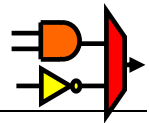

Figure 4 - Specifying the state assignment method in Quartus II.
3. Before compiling your code it is possible to tell the Synthesis tool in Quartus II what **style of state assignment it should use**. Choose Assignments > Settings in Quartus II, and then click on the Analysis and Synthesis item on the left side of the window. Then click on More Settings... and change the parameter State Machine Processing to the setting Minimal Bits, as indicated in Figure 4,.